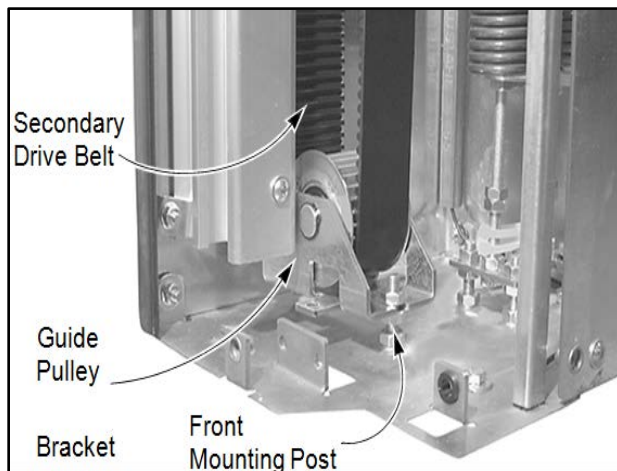

Figure 45
5. Release the tension from the secondary drive belt by removing the guide pulley bracket from the mounting posts. The pulley bracket is held in place by a pair of nuts threaded onto the mounting posts. (See Figure 45.)